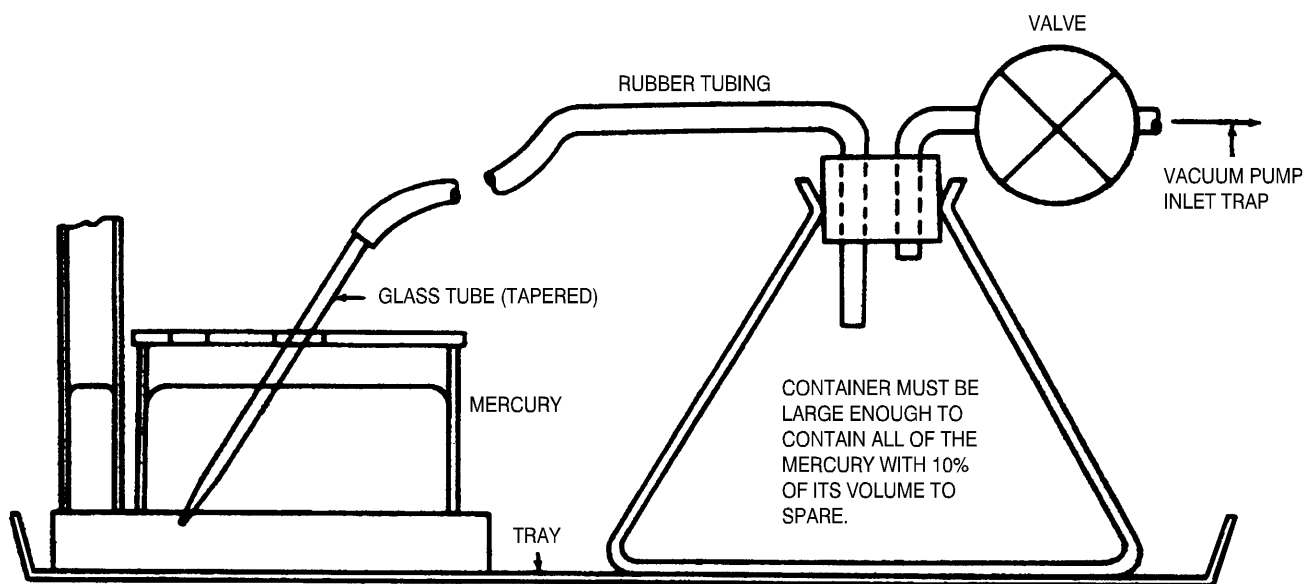

Figure 2-1. Removal of Mercury from PME
- a. Mercury can be removed from precision measurement equipment using the method in Figure 2-1 or as required in appropriate operation maintenance manuals.